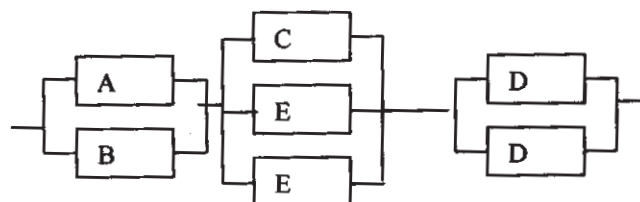

Fig.5
- b) Fig. 5 shows a reliability block diagram for a system. Construct a fault tree diagram for this system. If all the elements are having failure probability of 0.1, calculate system failure using fault tree analysis. [8]